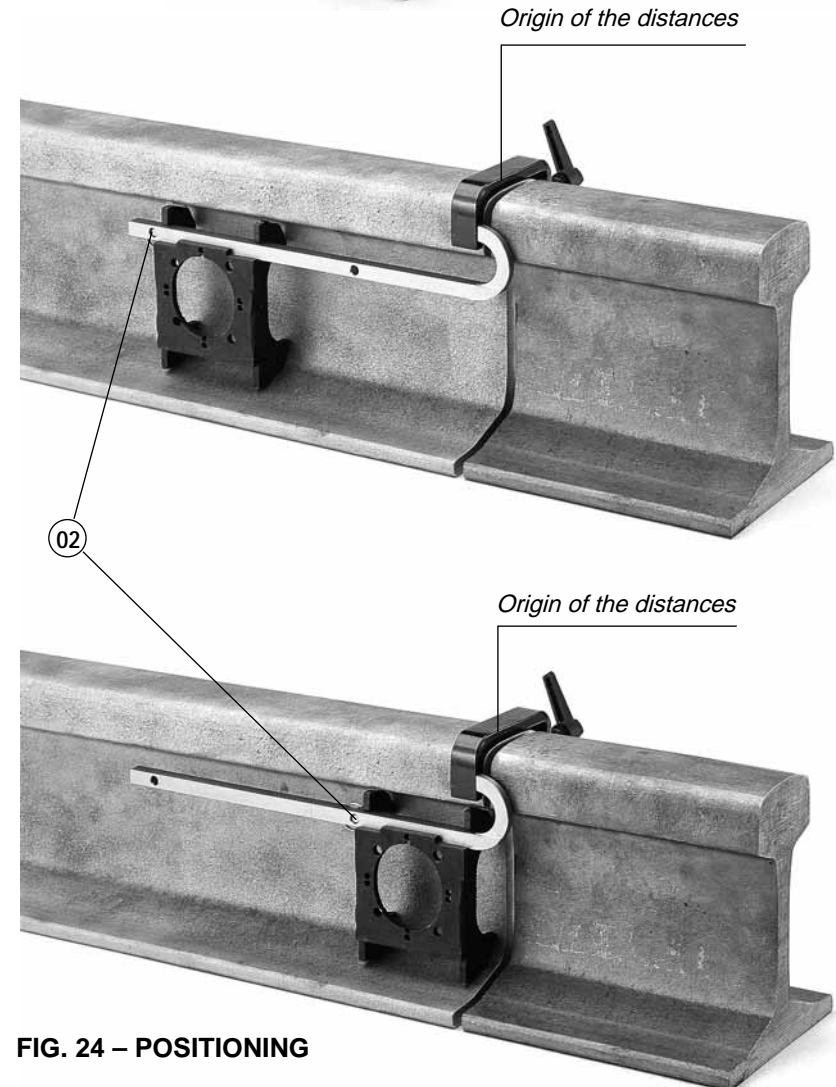

FIG. 24 – POSITIONING
- the **MPAF...** positioning template is flush against the locking bolt (02) (see Fig. 24).